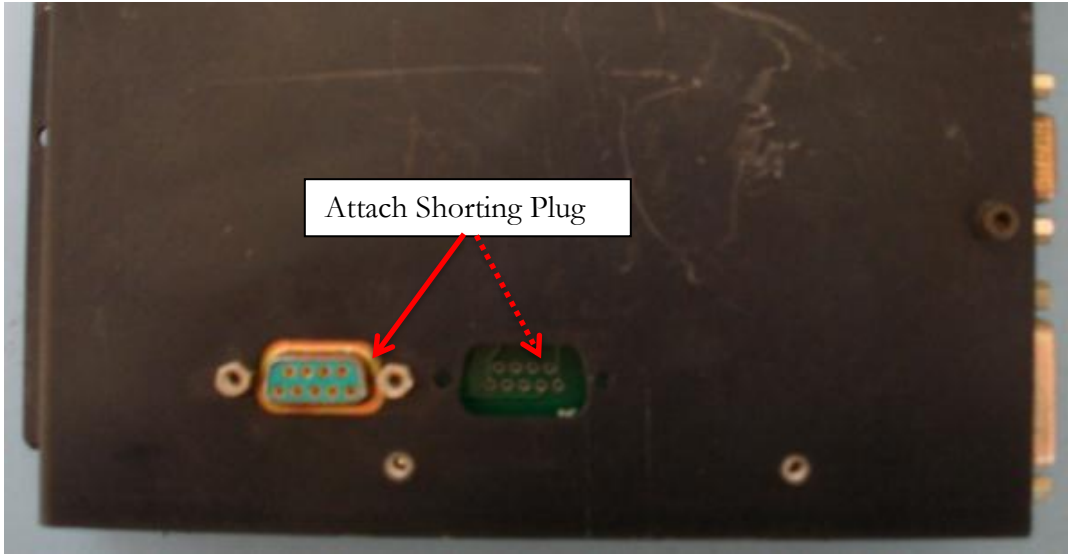

Figure 2: Shorting Plug Attachments for JP4 (dual) and JP5 (single)
- Attach shorting plugs where shown in Figures 2 & 3 (if card is from a dual actuator you will need the extra shorting plug). NOTE: Shorts at connectors *JP4* and *JP5* need to be grounded.